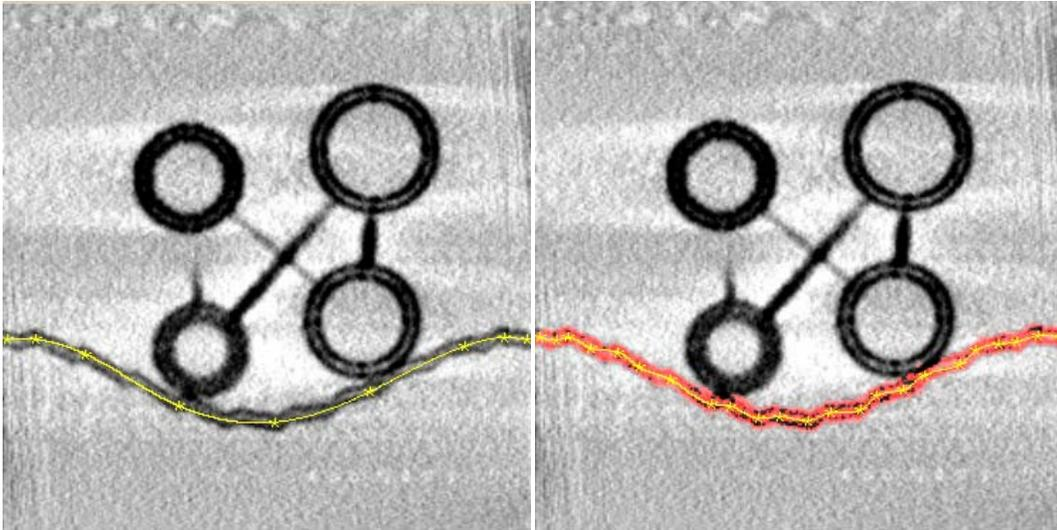

Figure 16: Anchor path for the Synthetic presynaptic membrane, initially and after refinement and search.
5. Define the anchor path. Starting at one end or the other of the membrane, use the middle mouse button to define points along its center. At first, define only a few points that roughly define the entire length of the membrane on this slice; see Figure 16. The size, shape and colour of the anchor points can be defined in the segmentation window: **Drawing > Change Anchor Mark**.
7. Press the **Search** button. Note that the **Minimum** and **Maximum** gray value sliders are automatically adjusted; values within this gray value range are indicated by a red overlay (Figure 16). Sometimes, it is useful to adjust these values to improve the segmentation and its propagation, but here it is satisfactory to accept the automatically calculated values.